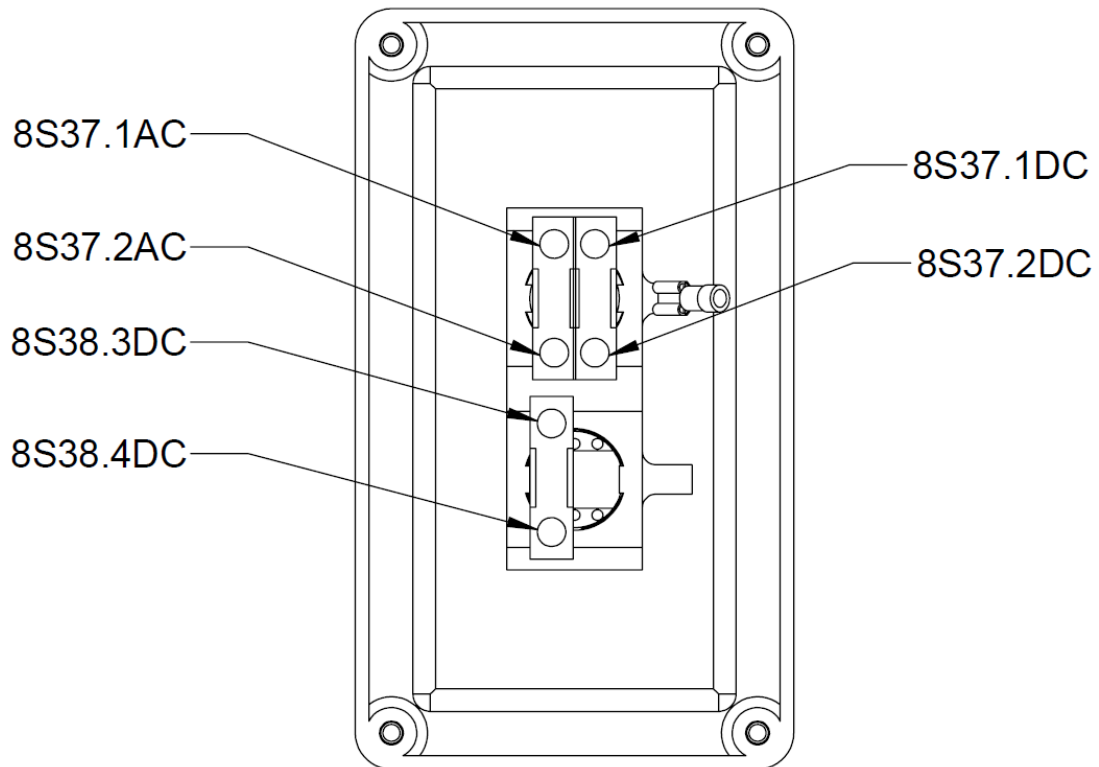

Figure 144 - Terminal Designations for System Stop Button Box with Reset
- Terminal numbers are shown in Figure 144 for PDQ Part No. 11010173.